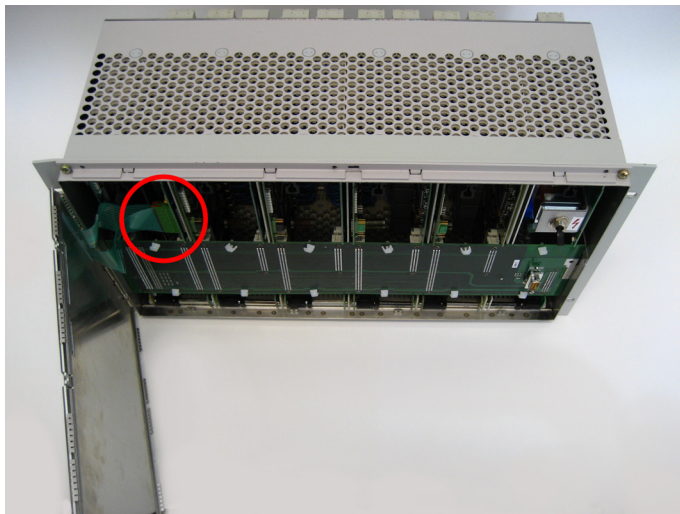

Figure 1-13 Connecting the ribbon cable
- ❑ Carefully pull the plug connectors of the two ribbon cables out of the CPU board and set the front plate aside (see Figure 1-13).